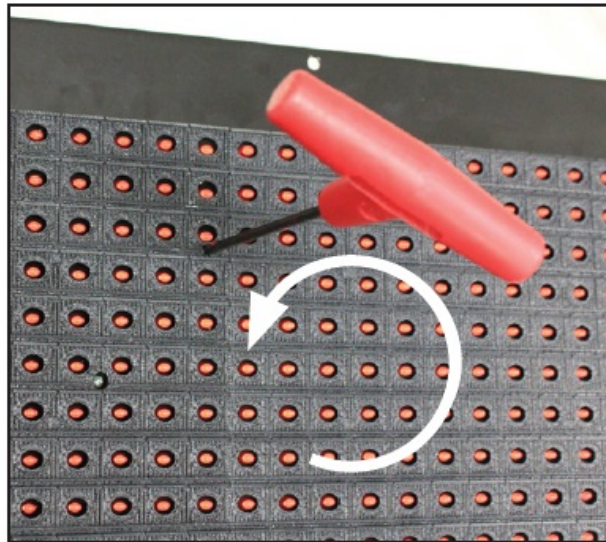

Figure 1: Module Access
1. Remove the top-left module by inserting a 1/8" Allen wrench into the latch access hole toward the top-center of the module and gently turning counter-clockwise. Refer to Figure 1.